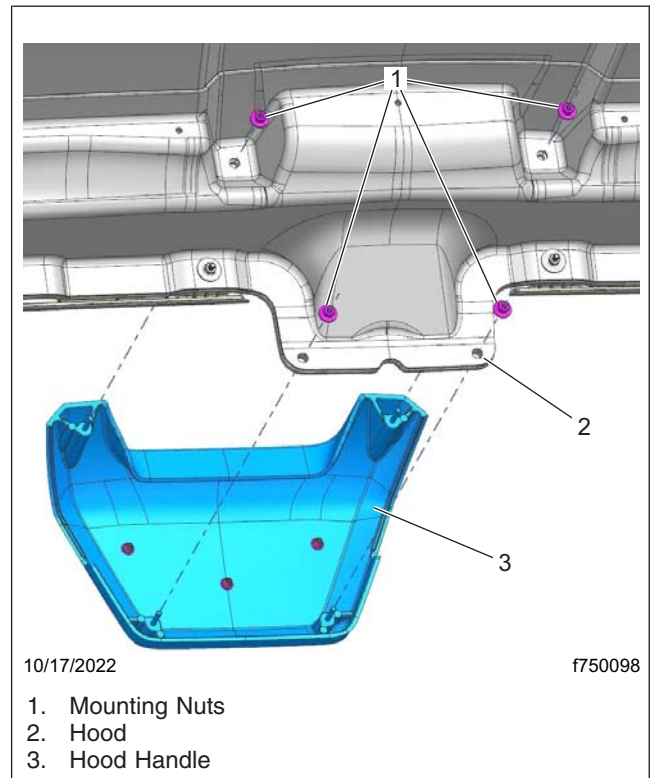

Fig. 2, Hood Handle Removal
6. Remove the four mounting nuts that attach the hood handle to the hood. See **Fig. 2**.